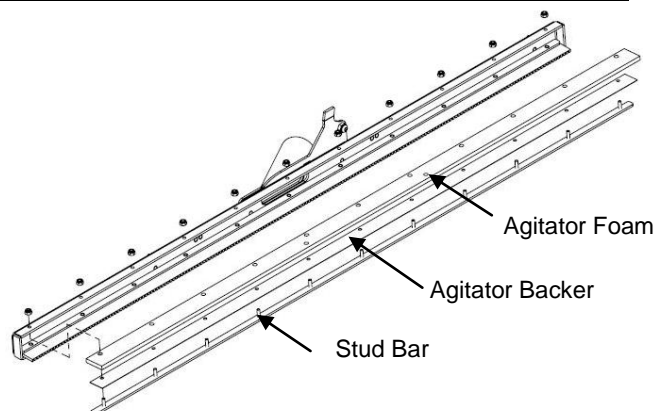

Figure 4- 33
- Remove the 11 nuts as shown in Figure 4- 33. Inspect the stud bar for any damage and replace if necessary.
- Replace the agitator foam and agitator backer then reassemble as shown in Figure 4- 33. Reinstall the 11 nuts to attach the stud bar to the